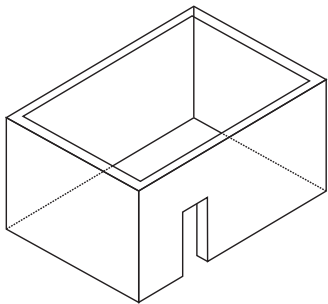

FIGURE F1 - OUTDOOR AREA - EXAMPLE 1
- An enclosure with walls on all sides, but at least one permanent opening at ground level and no overhead cover (Figure F1);